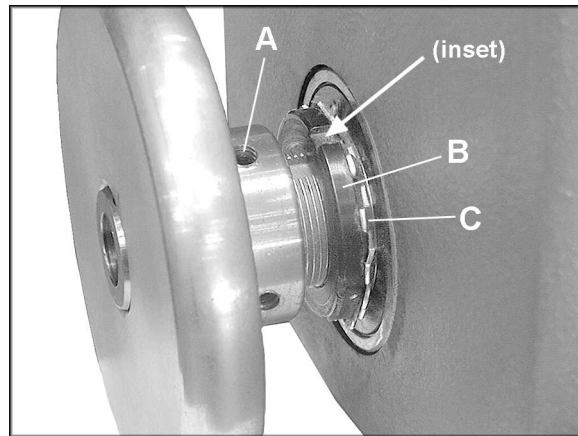

Figure 26
The spindle bearing has been set at the factory for general turning applications. There should be no "end play" or looseness along the spindle's axis. If any looseness should ever occur, it may be rectified by carefully tightening the bearing lock nut on the spindle, as follows. (See Figure 26).
1. Use a screwdriver to carefully bend back any tabs on the tabbed lock washer (C, Figure 26) that interfere with the insets (B, Figure 26) on the spanner nut.
2. Place the end of a flat head screwdriver down against one of the insets of the bearing lock nut (B, Figure 26).
3. Tap the handle of the screwdriver with a mallet so that it turns the spanner nut (A, Figure 26) tighter in a clockwise direction. Rotate the spanner nut only about 1/16" at a time.
5. After the spanner nut (B, Figure 26) has been properly adjusted, *carefully* bend back into place any tabs on the tabbed lock washer (C, Figure 26).
4. Loosen the two set screws on the handwheel (A, Figure 26) with a hex wrench, and pull the handwheel off the headstock spindle.
5. Loosen and remove the bearing lock nut (B, Figure 26) and tabbed lock washer (C, Figure 26).
9. Slide the spindle back into place, install tabbed lock washer (C, Figure 26), and bearing lock nut (B, Figure 26). Check for any spindle play at this point (See "Checking Spindle Play" section).
10. Re-install the handwheel and tighten the set screws (A, Figure 26).
11. Align the new sheave (see "Sheave and Belt Alignment") then tighten the two set screws (C, Figure 26) securely on the sheave.